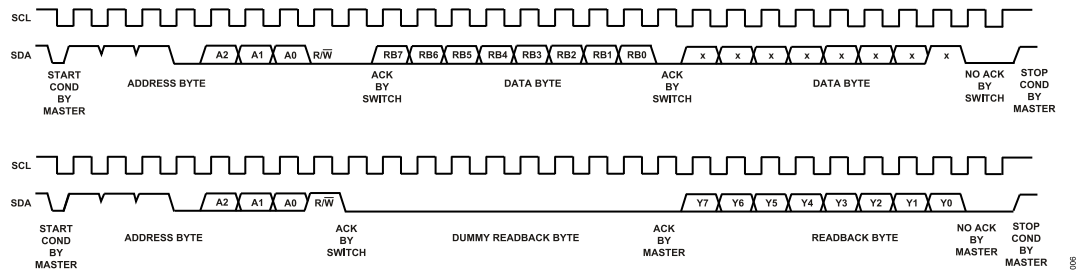

Figure 35. Read Operation
- ADG2128 is expecting a 2-byte write; therefore, be sure to enter another byte of don't cares. (see Figure 35).
- The entire read sequence is shown in Figure 35.